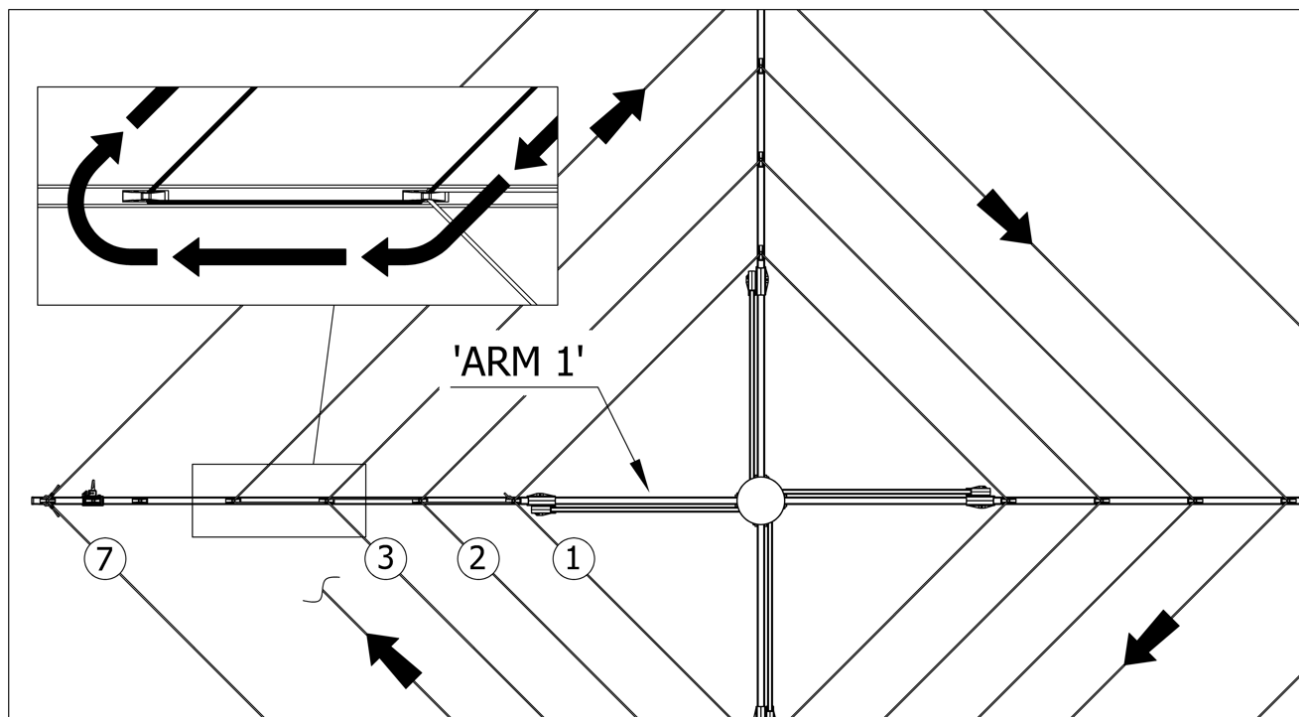

Fig 10. Cording fourth line. (Viewed from above)
1. Pull the cord back into the third clip and then run the cord parallel to the arm up to the next clip. (Fig. 10)
2. Cord line 4 in a clockwise direction. (Fig. 10)